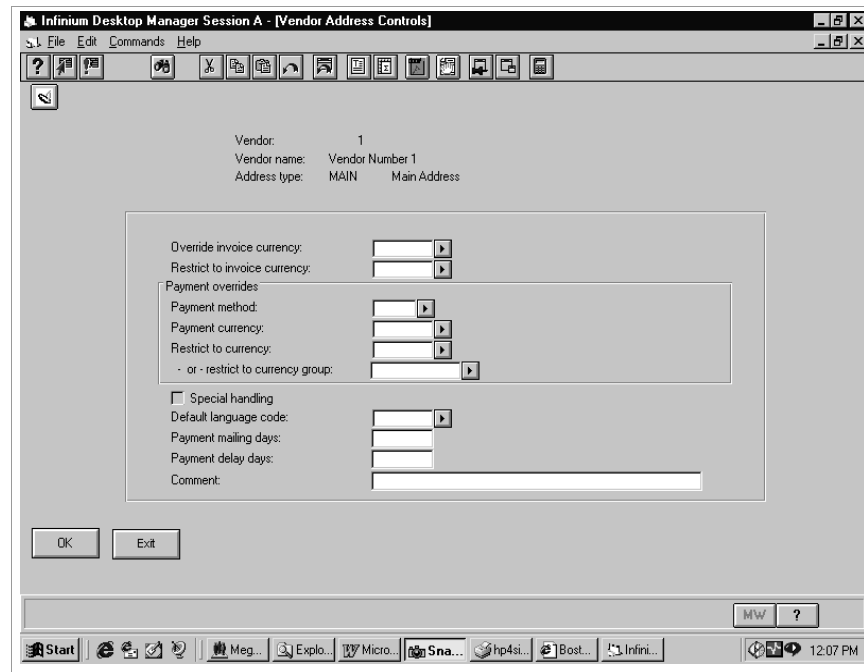
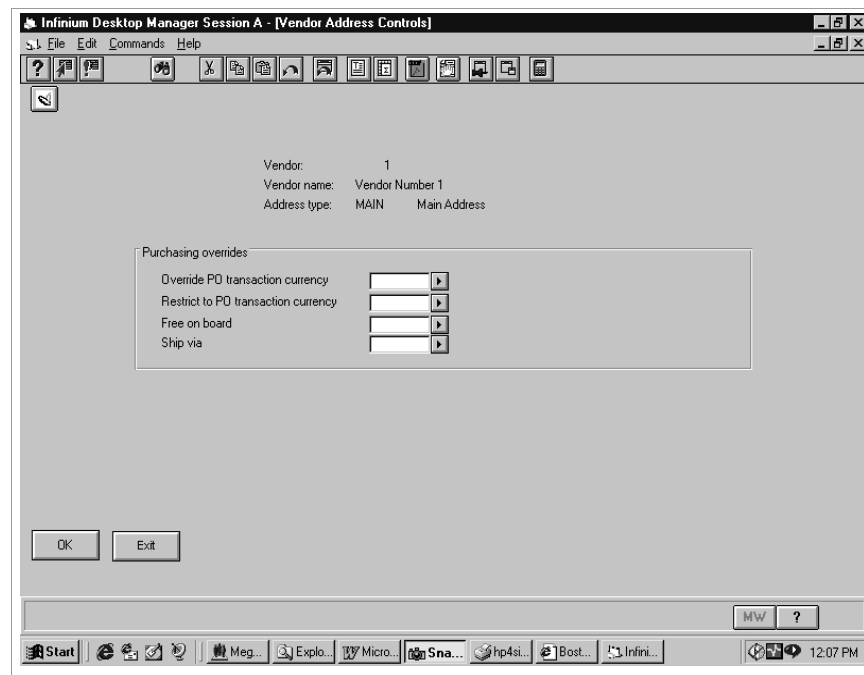

Figure 3-31: Vendor Address Controls screen 2
Figure 3-32: Vendor Address Controls screen 3
- 15 Press Enter. The system displays either the screen shown in Figure 3-31 or the screen shown in Figure 3-32, depending on the *Address type usage* value.
- Continues to the screen shown in Figure 3-32 if this is both a remit to and a buy from address type.